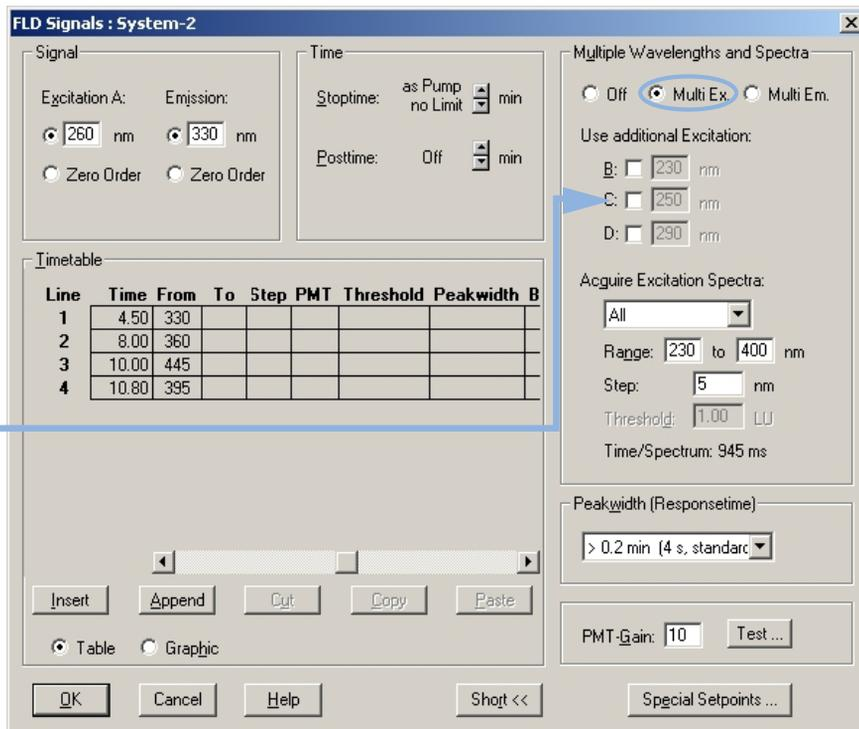

Figure 41 Detector Settings for Excitation Scan
- Using the settings and the timetable (from previous page), do a second run for the evaluation of the optimal excitation wavelength. See Figure 41 on page 98.